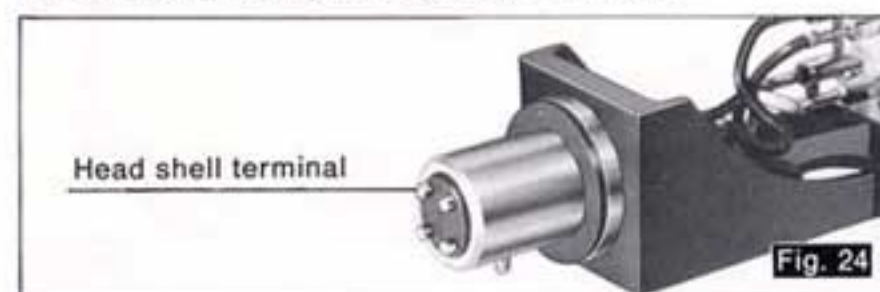

Fig. 24
⑥ Wipe the head shell terminals from time to time. (See Fig. 24)